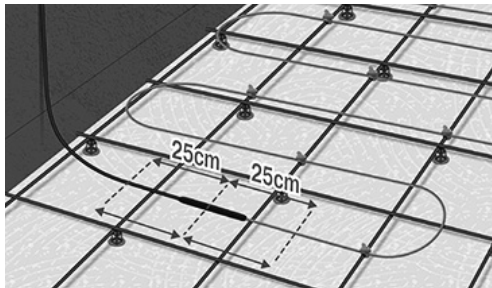

Fig. 4 Place the cable straight on each side of the joint
4. The cables are fastened approx. 25 cm on either side of the connection between the cold cable and heating cable, measured from the centre of the joint. Be sure to start so that cold cable can reach the thermostat. (Fig. 4).